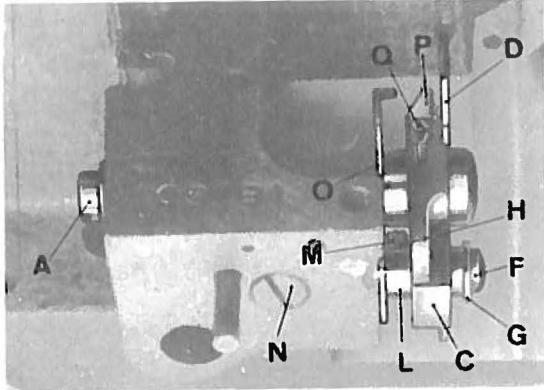
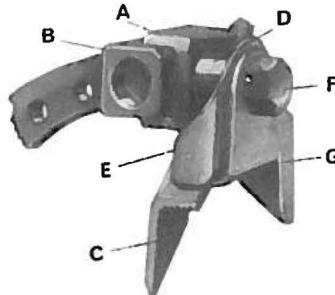

fig. 11
fig. 15
- With the needle in its lowest position, loosen screw F (fig. 11) and adjust needle guard support bracket P so that it touches the back of the rear needle guard.
- Loosen screw A (fig. 11).
- Place upper knife C (fig. 15) in upper knife holder A.
- Mount upper knife holder block D and trimming guards E and G (fig. 15) with screw F.
- Slide upper knife C against lower knife D (fig. 11) and check to see that cutting edge of top knife overlaps 1/16 inch the cutting edge of the bottom knife. If adjustment is required, move upper knife holder block A (fig. 15) left or right until the conditions described above, are obtained.
- Turn handwheel clockwise until upper knife holder block A (fig. 15) is in its upper-most position.
- Loosen screw N. (fig. 11)
- Activate lower knife holder C (fig. 11) by hand to the left.
- Retighten screw N (fig. 11).
10. Mounting the upper knife (fig.15)